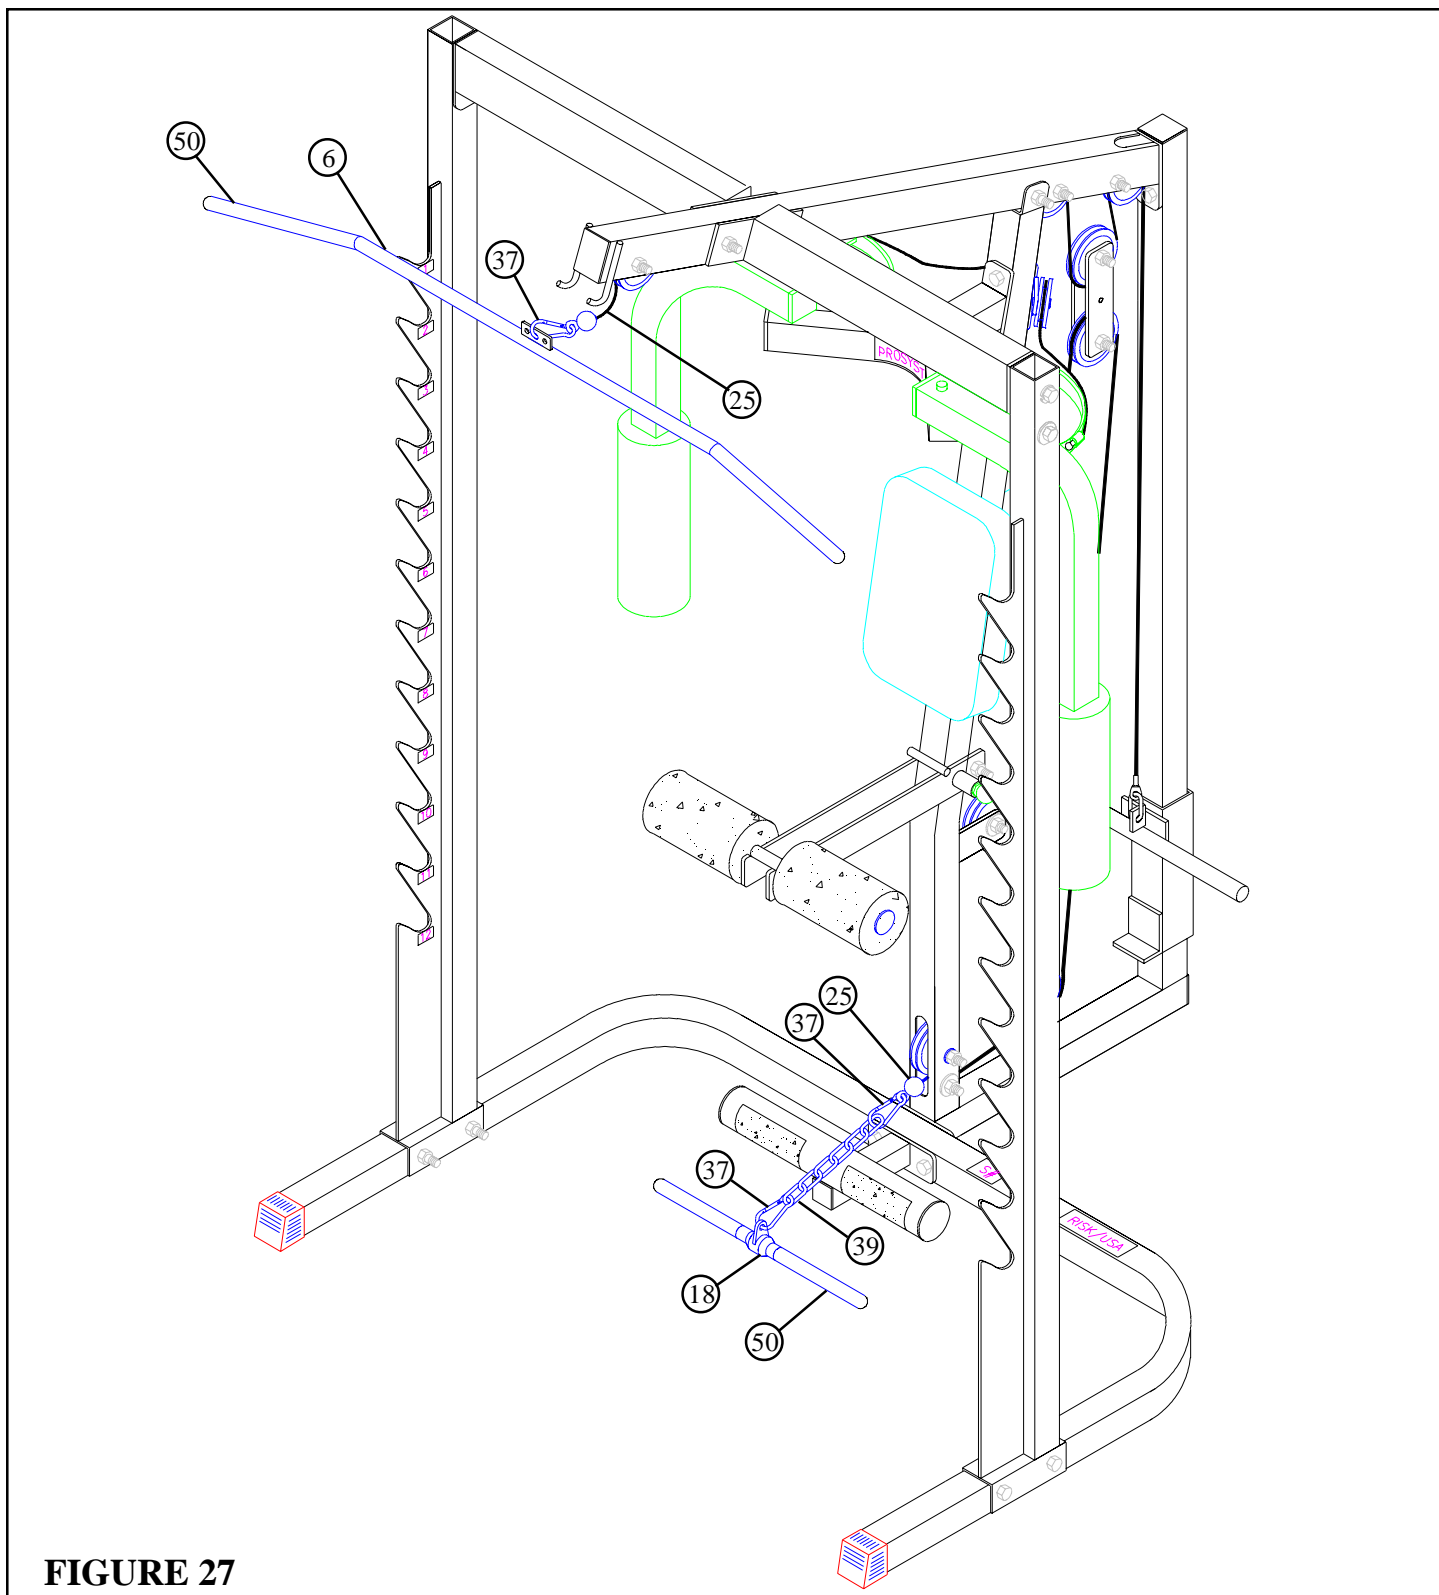

**FIGURE 26**
- Route CABLE (25) around PULLEY and under the CABLE RETAINING CLIP on FRONT UPRIGHT (1) as shown in FIGURE 26.
- Attach the CABLE (25) to the PULLEY BRACKET (11) using one QUICK LINK (38) as shown in FIGURE 26.
- **SECURELY** tighten the two PULLEYS assembled between the two 1-3/4 X 5-1/4" PLATES (17).